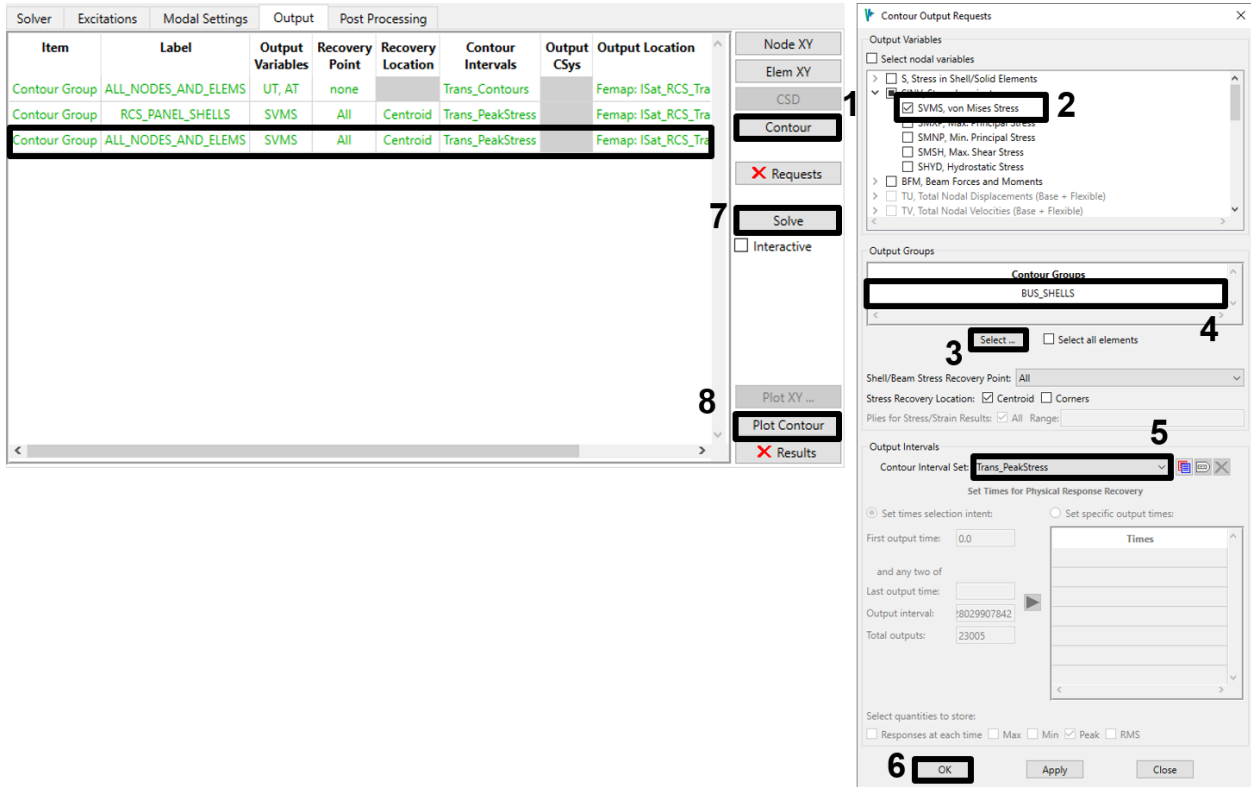
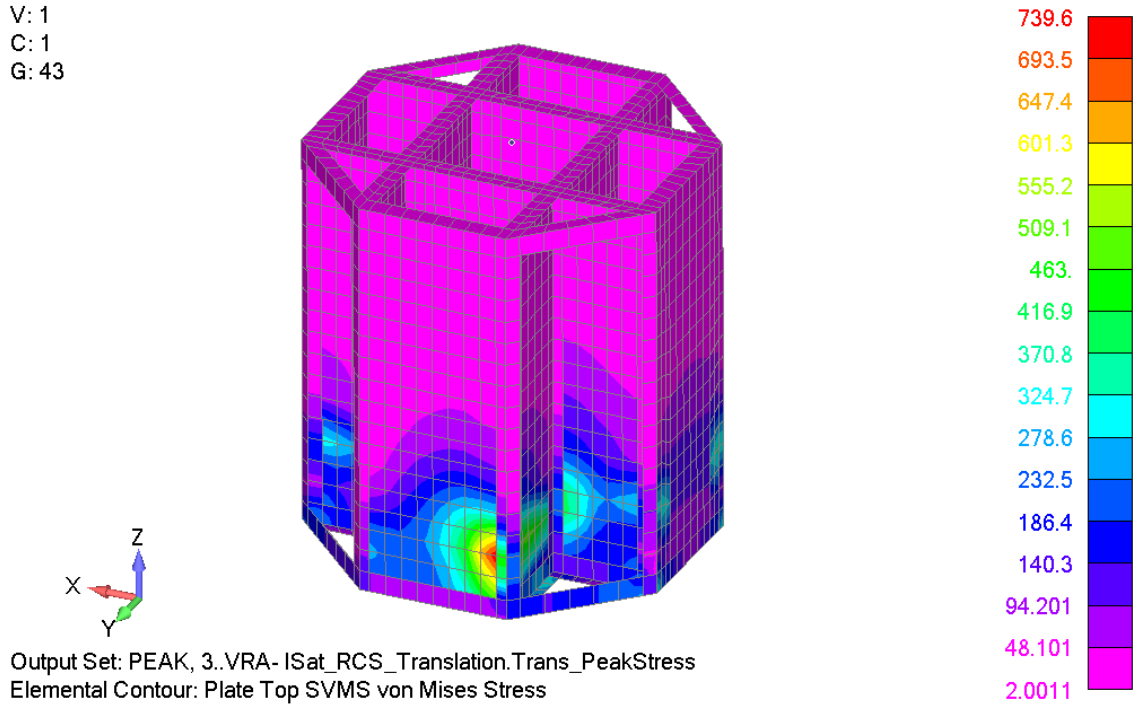

Figure 4-105. Select the BUS_SHELLS contour request and plot its results.
Figure 4-106. Von Mises results with only the BUS_SHELLS group displayed.
11. There appears to be a significant stress concentration where the instrumentation package support attaches to the bus. Create a contour request for the peak stresses in the BUS_SHELLS group with the same settings used for the RCS panels. Solve this new request, then select it in the table and click **Plot Contour** again (Figure 4-105). This time, display only the BUS_SHELLS group in the contour plot (Figure 4-106). There is indeed a stress concentration, and the stress is nearly seven times higher than in the RCS panels.